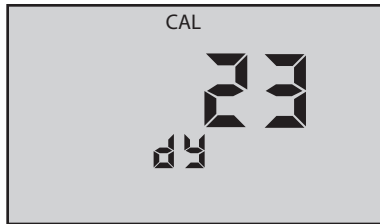

Figure 15
9. Press  $\frac{\text{CAL}}{\text{MCLR}}$  to accept the change (new day) (see Figure 15).